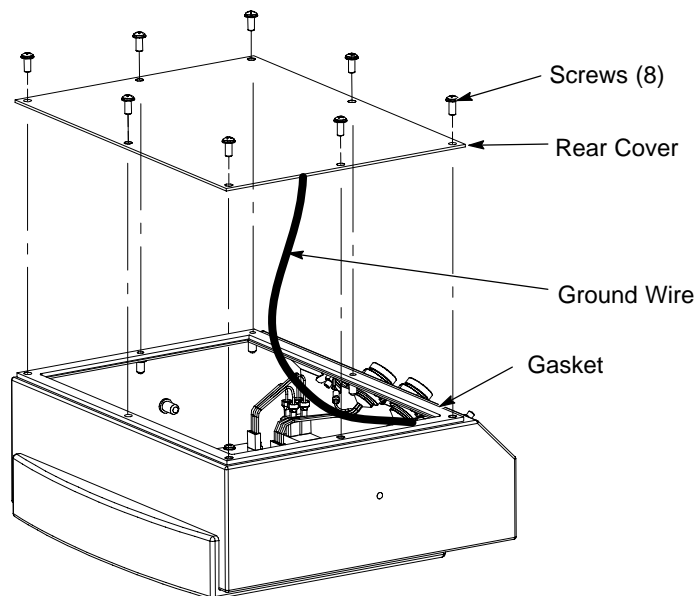

Figure 1 Removing rear cover
1. See Figure 1. Remove the 8 screws from the rear cover and remove the cover. Disconnect the ground wire from the cover to move the cover out of the way.
13. See Figure 1. Make sure the gasket is undamaged. Install the rear cover, connecting the ground wire to the spade terminal on the cover.